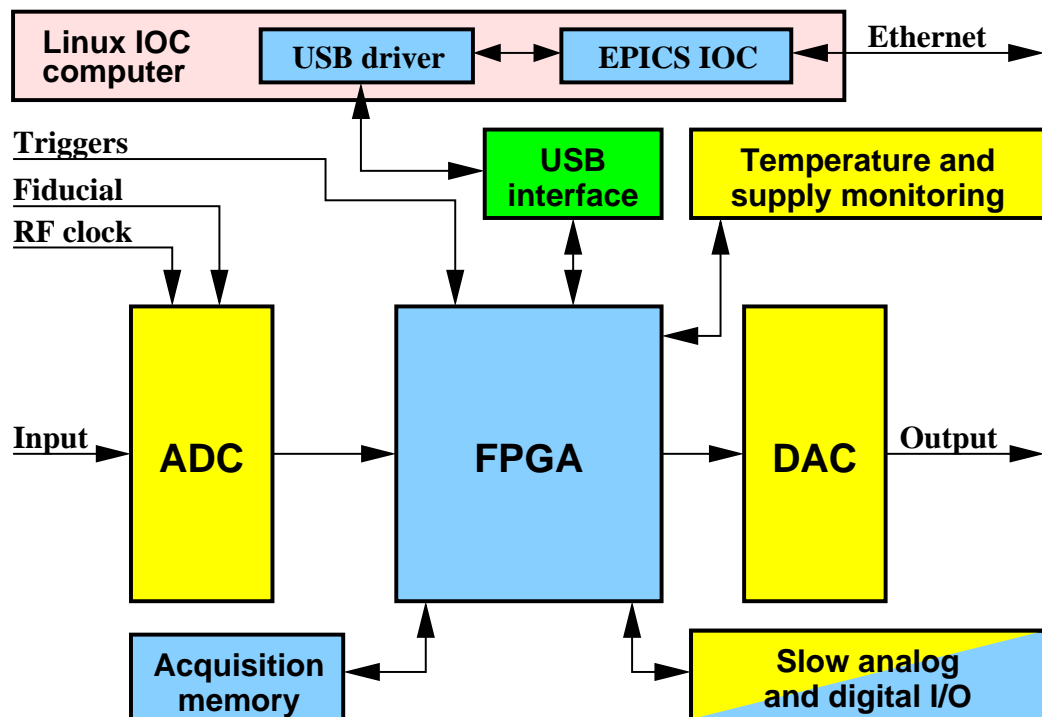

Figure 1: iGp-1281F block diagram
A block diagram of the iGp-1281F system is shown in Figure 1. The main signal processing chain consists of a high-speed analog-to-digital converter (ADC), a field programmable gate array (FPGA), and a high-speed DAC and is driven by the radio frequency (RF) clock. In addition to performing real-time control computations, the FPGA interfaces to a number of on-board devices, such as high-speed data acquisition memory (static random access memory (SRAM)), low-speed analog and digital input/output (I/O), as well as temperature and supply voltage monitors. In turn, the FPGA uses an internal universal serial bus (USB) connection to communicate to an embedded input-output controller (IOC) computer housed in the same chassis. The IOC runs the Linux operating system and is connected to the overall control system via the Ethernet.